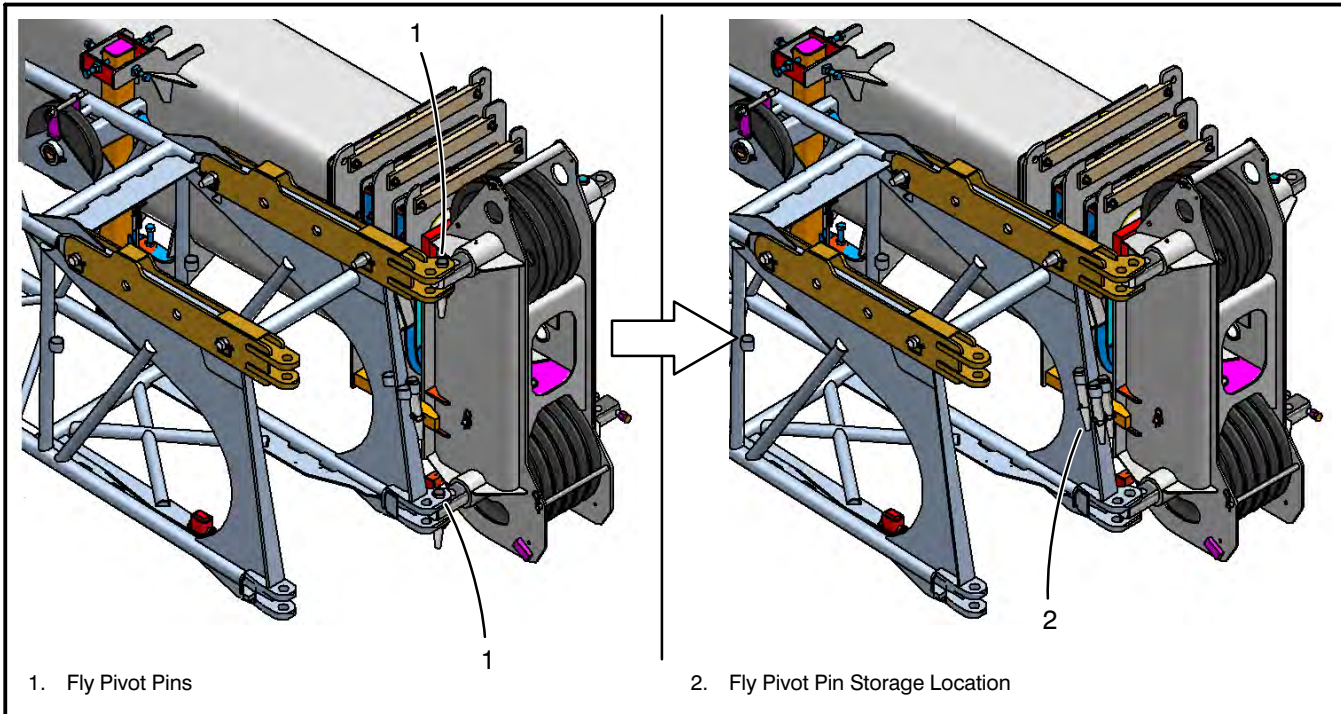

Figure 4-28
18. Remove two fly connecting pivot pins from the right side of the boom. Refer to Figure 4-28. Store pins and keepers in their storage location on the rear right side of the fly.